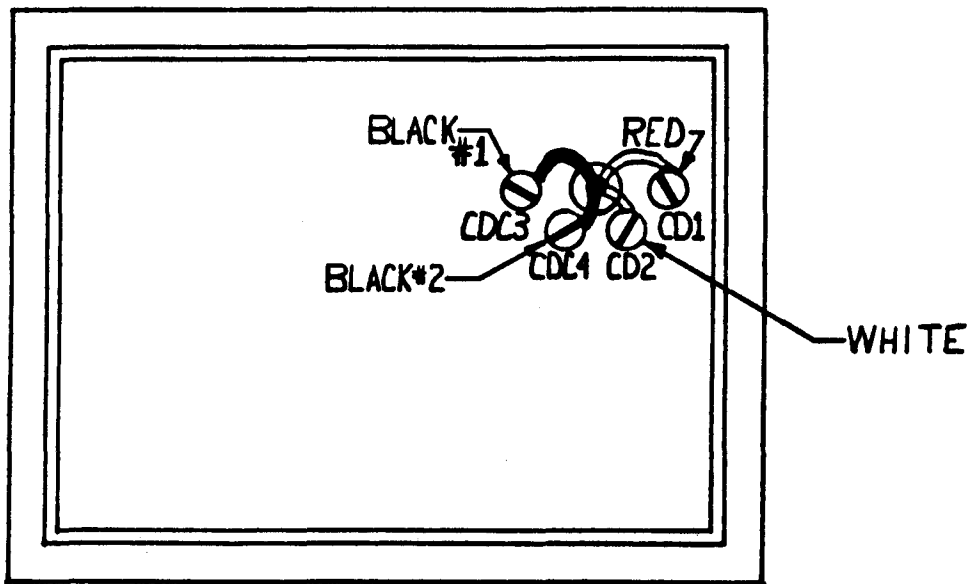

Figure 3 - Wiring the Control Cable
3. The Control Cable consists of two twisted pairs. These are a Black/Red pair and a Black/White pair. To guarantee proper operation and noise immunity, when wiring these pairs to the Control/Display board, THE BLACK WIRES MUST NOT BE CROSSED OR MIXED UP, even though the black wires are connected together at the Data/Link (D/L) printed circuit board in the Relay unit. Connect the wires as shown in Table 1 and in Figure 3 on the following page.
4. Ensure the Red/Black pair is connected to the top two screw terminals. Red to terminal CD1. Black to terminal CDC3. The White/Black pair is connected to the bottom two terminals. The White to terminal CD2. Black to terminal CDC4. Refer to Figure 3 or wiring diagram on Relay Unit cover. After wires are attached, double check to make sure that wires are connected to the proper terminals and that there are no stray strands of wire which may short any of the terminals to each other or any part of the C/D PCB.